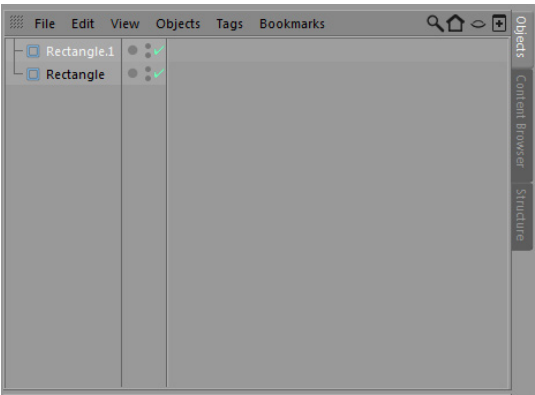

Figure 2-33 *Rectangle.1* added to the Object Manager
5. Make sure that *Rectangle* is selected in the Object Manager. Press and hold the left mouse button and the CTRL key and then drag and drop the cursor in the empty space above it; the copy of *Rectangle* is created in the Perspective viewport and added to the Object Manager with the name *Rectangle.1*, as shown in Figure 2-33.